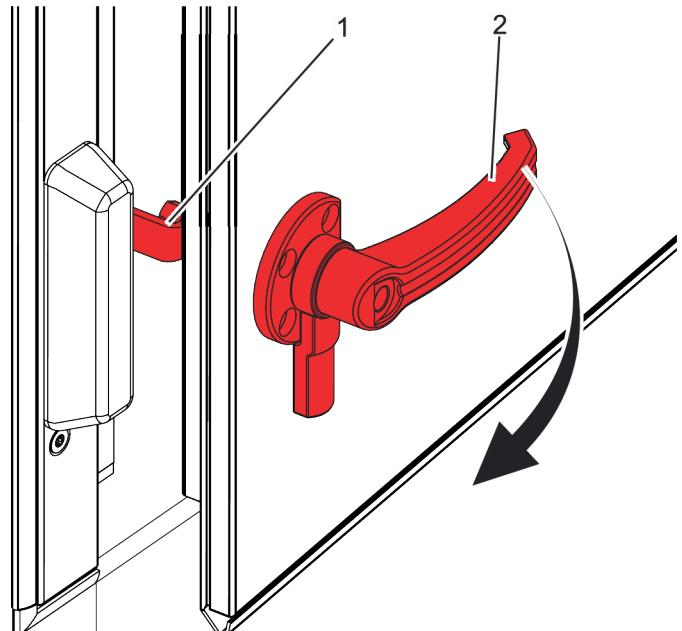

Fig. 18: Releasing the safety catch
3. ▶ Turn the door handle (Fig. 18/2) 90° clockwise.
⇒ The safety catch (Fig. 18/1) is released and the inspection access door can be opened.